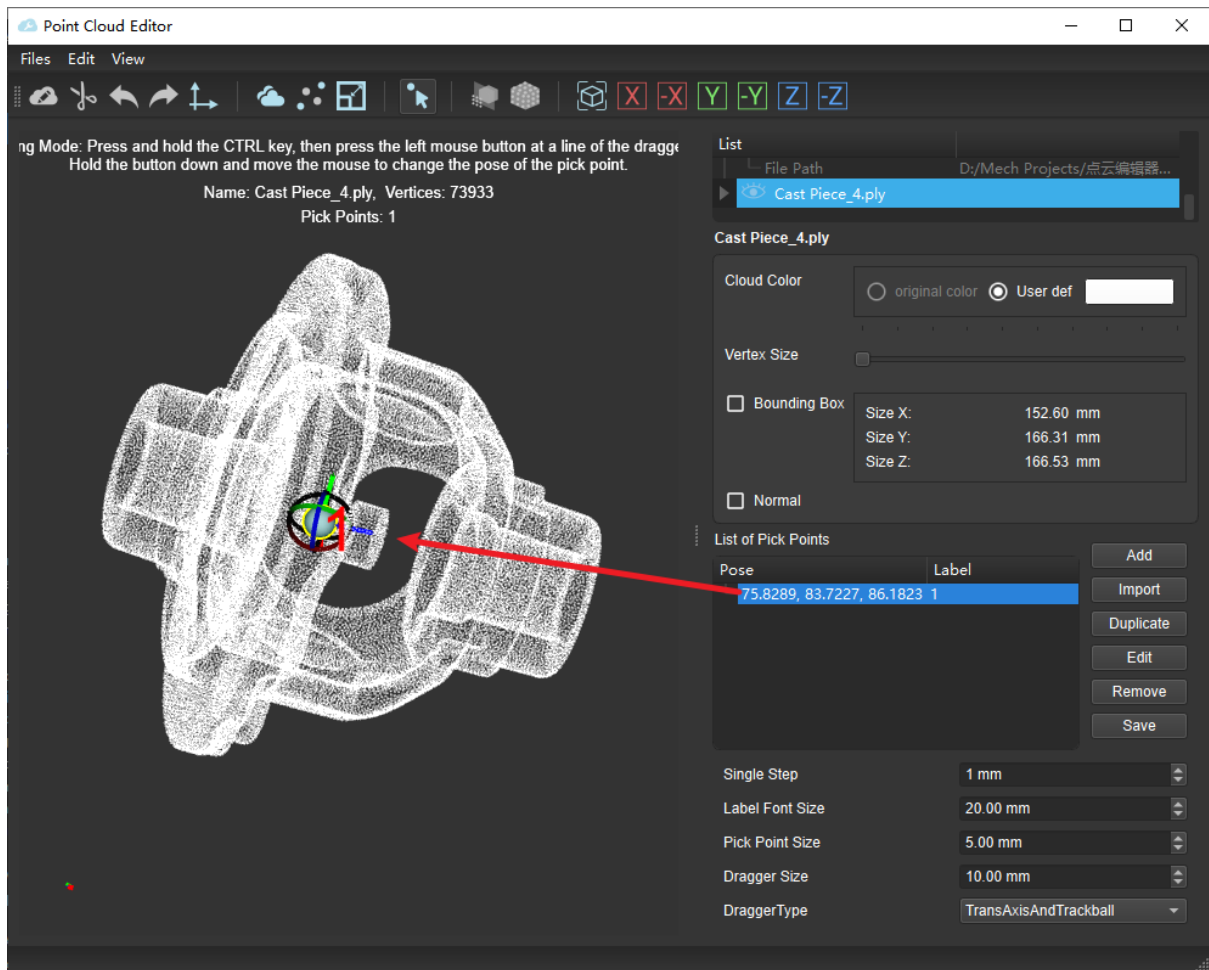

Figure 11. Set Pick Point
3. Or set the pose of a selected pick point by dragging the dragger (trackball or transaxis or both) of the pick point. The properties of the dragger can be set in the lower right corner, as shown in *Figure 11*.